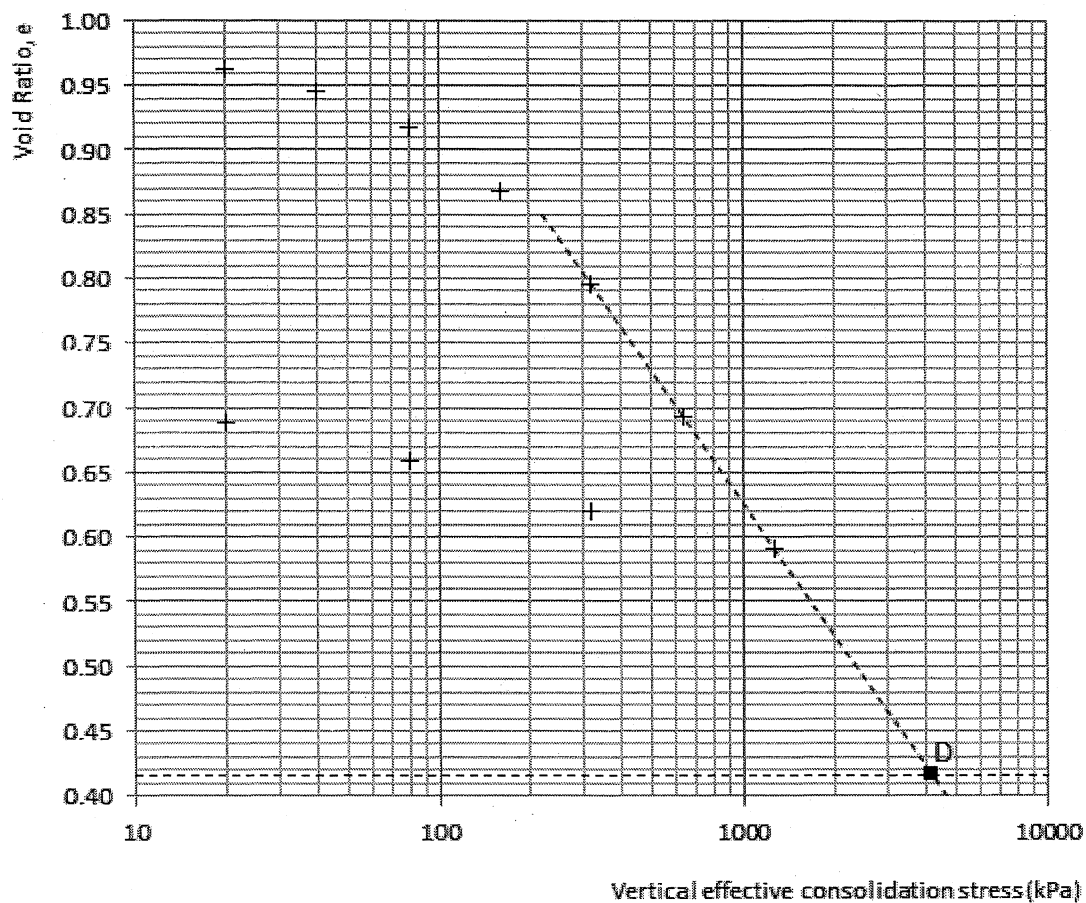

Figure 1: Variation of e versus p'
Figure 1 plots the results of a one-dimensional consolidation test specimen, representative of a 7m thick clay stratum. The in-situ effective overburden stress and void-ratio is determined to be 100kPa and 0.99, respectively.
- B. Estimate the pre-consolidation stress. Show your construction on Figure 1 (refer annexure). Compute the over-consolidation ratio. (4 points)